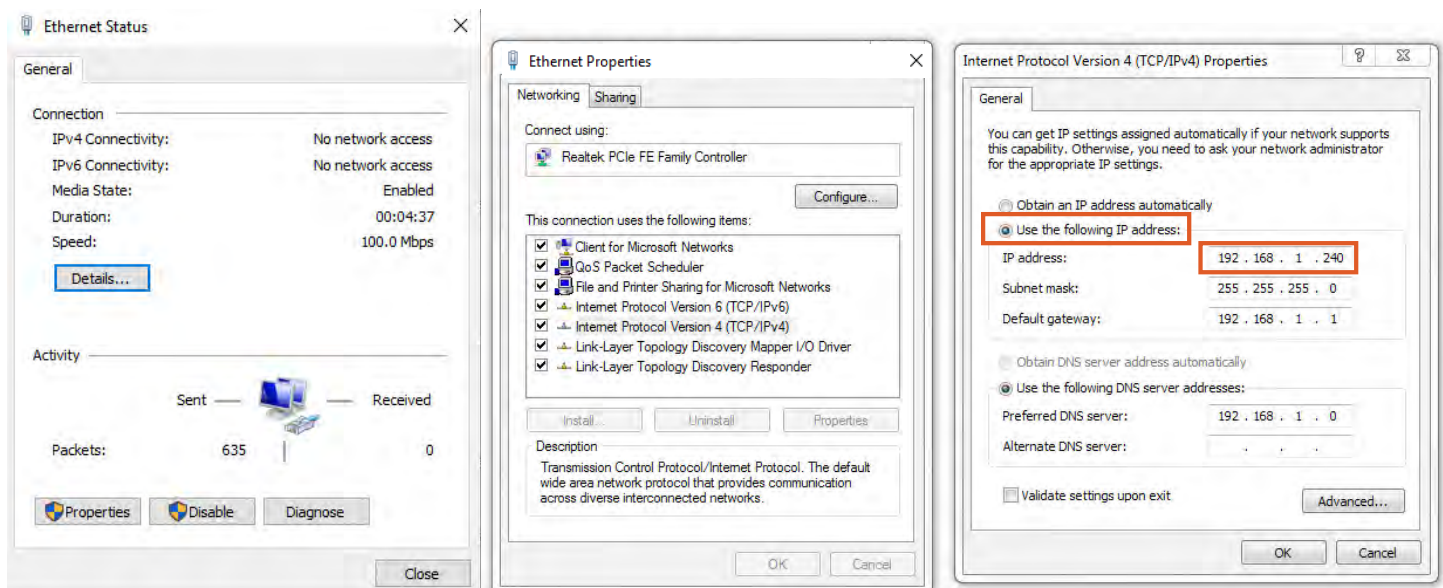

Figure 16. Internet Protocol Version 4 Properties window
6. Click the radio button in front of “Use the following IP address:” if it is not already selected. If using the default IP address for the RMK, which is 192.168.1.200, set the PC IP address to 192.168.1.xxx. **Note:** The last 3 digits can be any number between 1 and 254, with the exception of numbers already associated with other devices (including the RMK) on the network. The one in Figure 16 is set to 240.
Set the other address per Figure 16. When finished, click OK or Close in the three (3) windows for the changes to take effect.